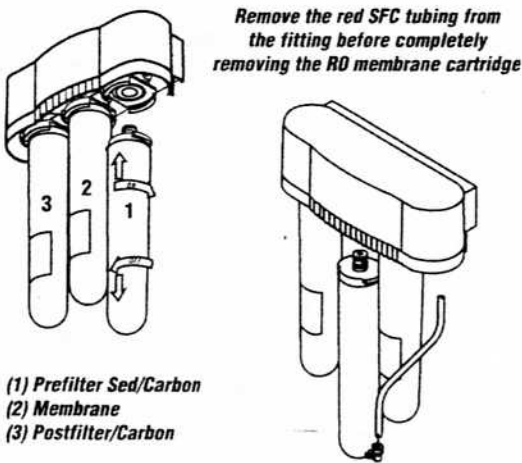

Figure 7
- 1) Close the feedwater valve. Lift up on the faucet handle to drain the tank. Wait five (5) minutes for the purification assembly to completely depressurize.
- 2) Make sure that there is some slack in the red SFC tubing connected to the fitting at the bottom of the RO membrane cartridge. Twist the cartridge 1/4 turn to the left so that the tubing connection is accessible. (See Fig. 7)